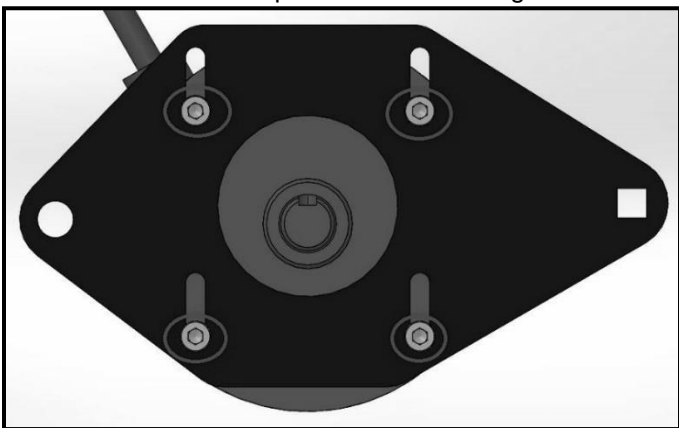

Fig. 2
4. Loosen the four hex socket cap screws that hold the motor to the motor plate as shown in Fig. 2.